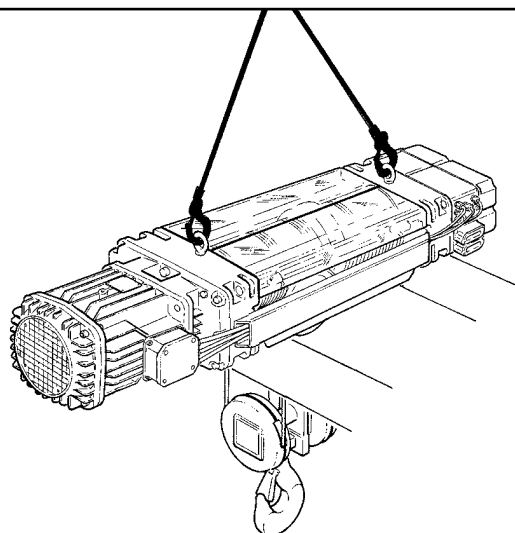

fig. 164
- Put a 2-rope fall sling connecting the handling ends inside the eyebolts (fig. 164) of the hoist.